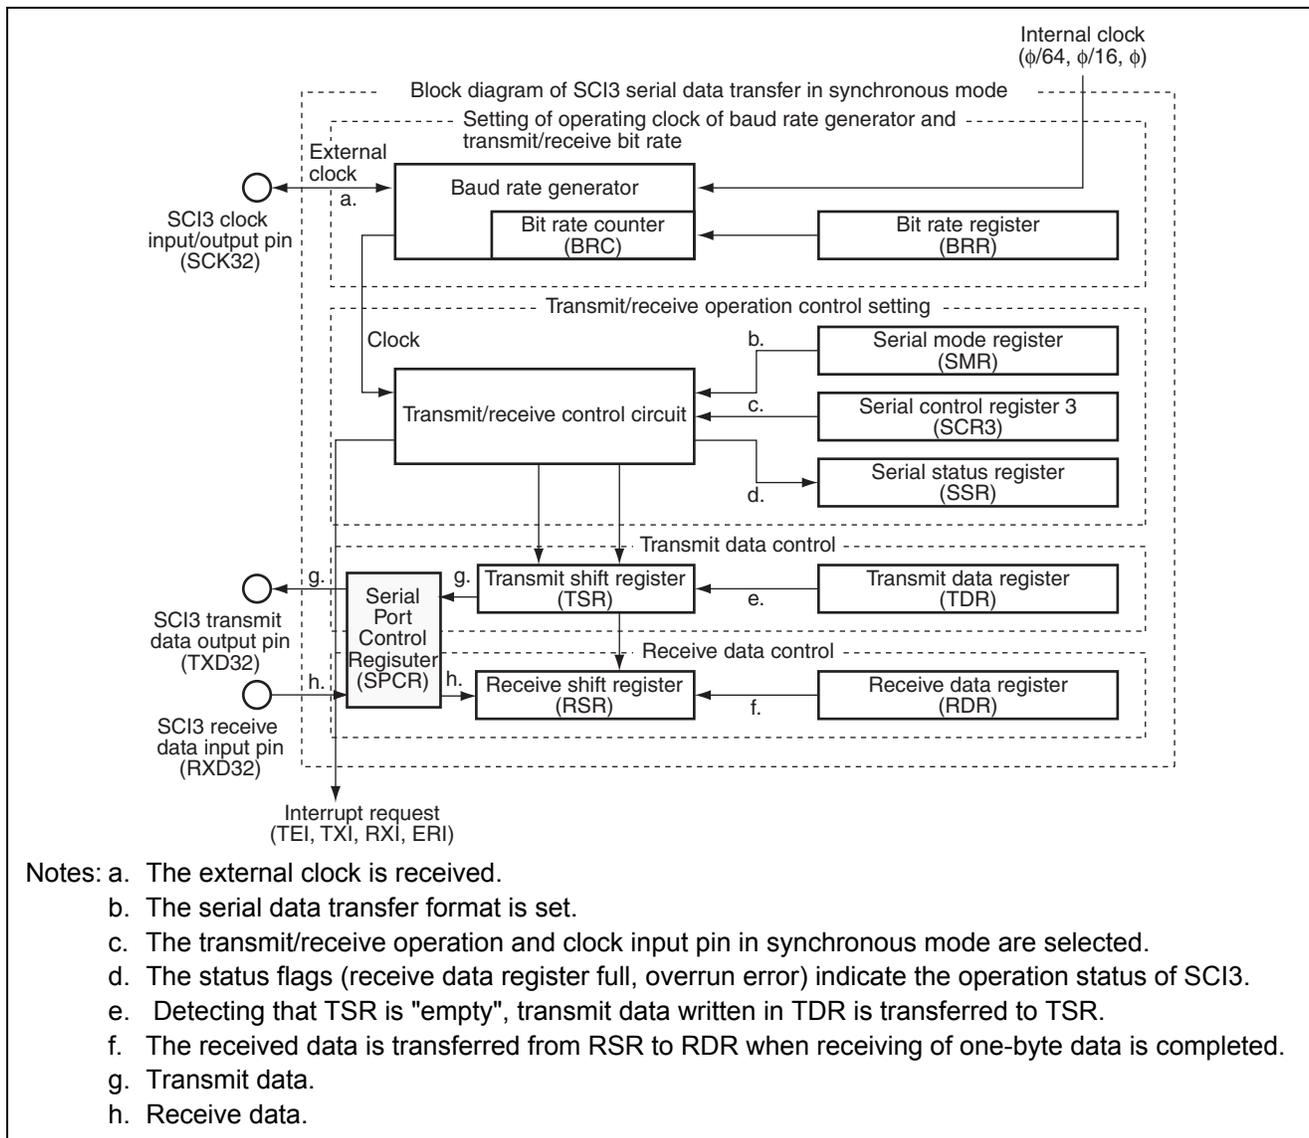

Figure 2.1 Block Diagram of Serial Data Reception in Synchronous Mode
1. In this sample task, serial data is received in synchronous mode using the Serial Communication Interface (SCI). Figure 2.1 shows a block diagram of serial data reception in synchronous mode which is described below.